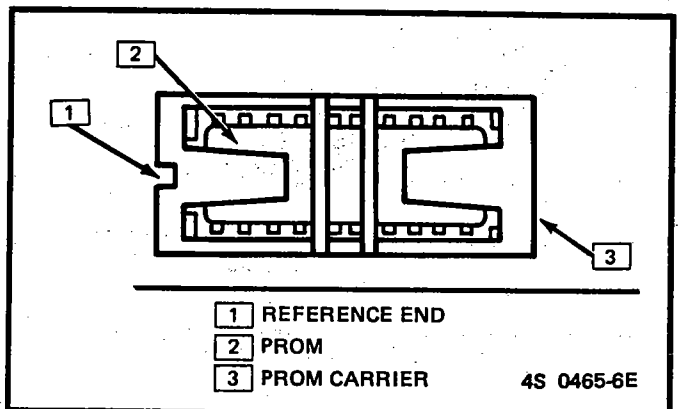

Figure C1-16 - PROM in PROM Carrier
2. For correct reference of PROM in carrier, see Figure C1-16.